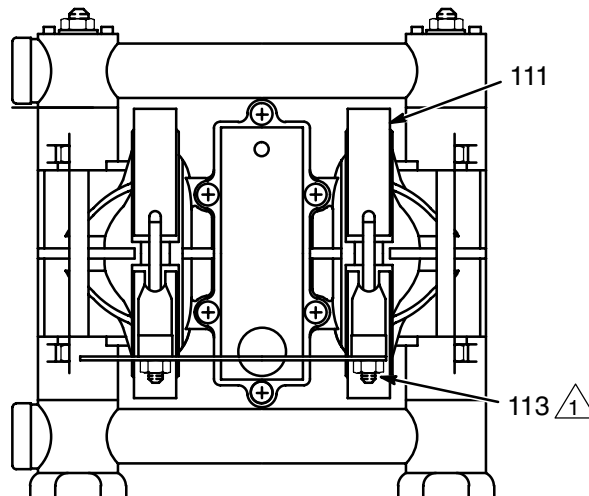

Fig. 9
When tightening the clamps (111), apply thread lubricant to the bolts and **be sure** to torque the nuts (113) to 50 to 60 in-lb (5.6 to 6.8 N•m). See Fig. 9. See **Torque Sequence**, page 32.